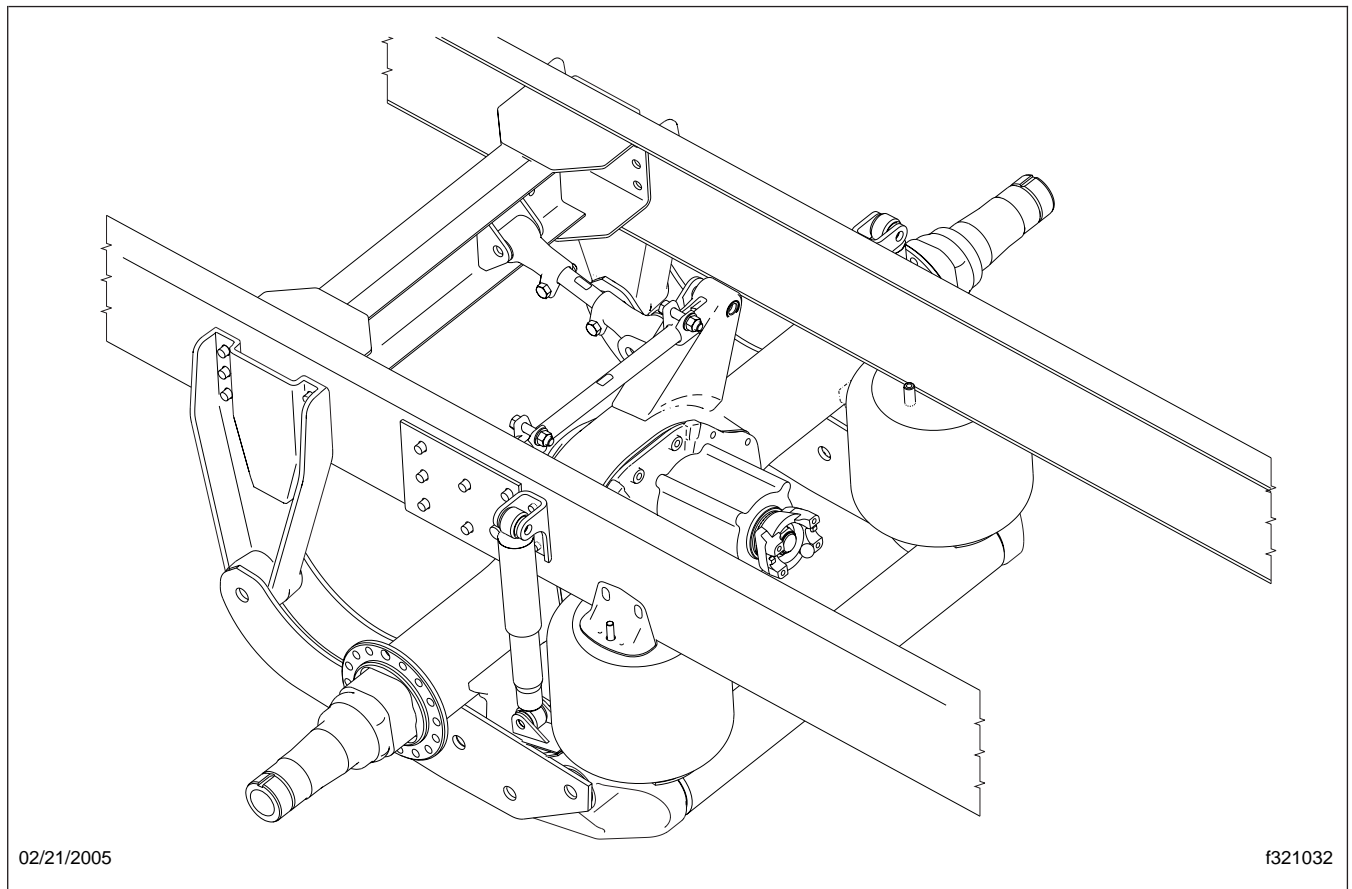

Fig. 2, Holland Neway ADL 120/123 Suspension
2. Squeeze all air springs to check for complete deflation. It may take ten minutes for the pressure to bleed down from the air spring. See **Fig. 2**. If any air springs remain partially or fully inflated, see **Group 32** of the *Recreational Vehicle Chassis Workshop Manual*, or take the vehicle to an authorized Freightliner dealer. Inspect the air springs for cracks, tears, or other damage.